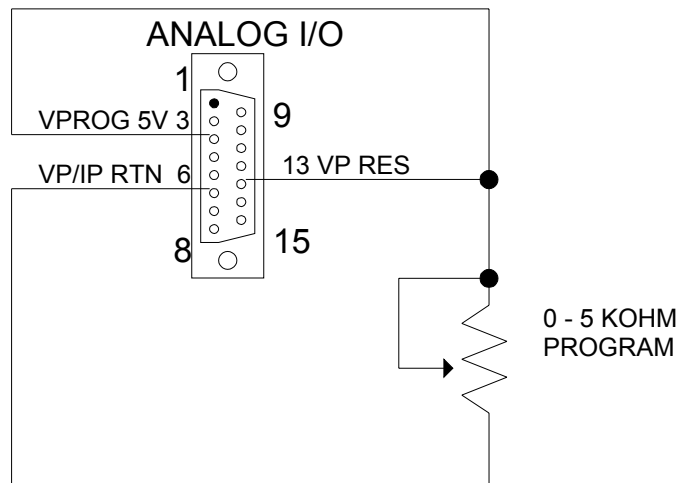

Figure 5-2: Remove Voltage Programming Using Resistance
- External Voltage Programming using a resistor. The resistance coefficient for remote voltage programming is 5k ohms/100% of rated output voltage with respect to the (ISO VP/IP RTN), pin 6. The programming current from pin 13 (VP RES) is 1 milliamp through a 5 V DC supply. This yields a coefficient of 1.0% of rated output current for each 50 ohms. If multiple switches or relays are used to program different levels, make-before-break contacts are recommended. See Figure 5-2 for connection requirements.
- External Voltage Programming using an external current source. This is similar to the use of a voltage source except the available current source is converted to a voltage source by using an external resistor. If the current source is fixed, a variable resistor will result in a voltage input to the RPV input proportional to the resistor setting. See Figure 5-2 for connection requirements.
- External Current Programming using an external current source. This is similar to the use of a voltage source except the available current source is converted to a voltage source by using an external resistor. If the current source is fixed, a variable resistors will result in a voltage input to the RPI input proportional to the resistor setting. See Figure 5-2 for connection requirements.